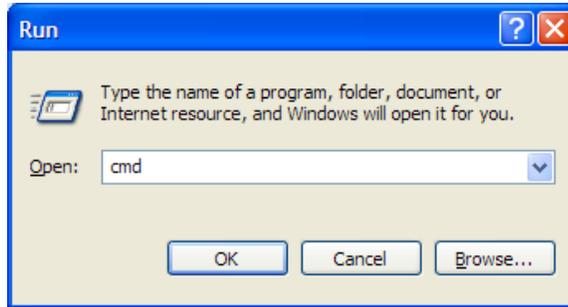

Figure 1-11. DOS Command Shell
- 4) Testing your network can be done from your computer's DOS command shell. To open a DOS command shell in Windows®, select the Start RUN Open: **cmd**. (Figure 1-11).
In the DOS command shell type **ipconfig** to see the available networks (Figure 1-11):